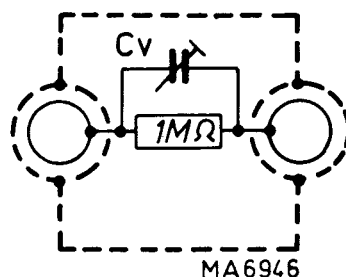

Fig. 13. Input RC standardizer
- Set $ACx10/AC/DC$ switch 807 (808) to position $ACx10$.
- Apply a square-wave voltage of 30 mV_{p-p} , frequency 2 kHz, rise time 300 ns, to $Y_A (Y_B)$ input socket 853 (854).
- To equalize the input capacitance in all positions of the Y_A (Y_B) AMPLITUDE switch 805a (805b), an input RC standardizer is connected in series with Y_A (Y_B) input socket 853 (854). The input RC standardizer consists of the parallel circuit of a $1\text{ M}\Omega$ resistor and a 3-60 pF trimmer (Fig. 13) and is adjusted as indicated in the following table.
- Connect a square-wave generator (rise time 100 ns, internal resistance $< 1\text{ k}\Omega$) to Y_A (Y_B) input socket 853 (854). Adjust amplitude and frequency in accordance with the following table.